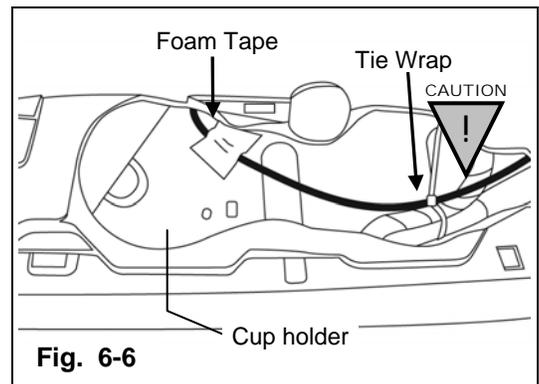

Fig. 6-6
- Route video cable toward D-pillar, securing with one (1) tie wrap to existing OE harness and one (1) piece of foam tape. (Fig. 6-6)